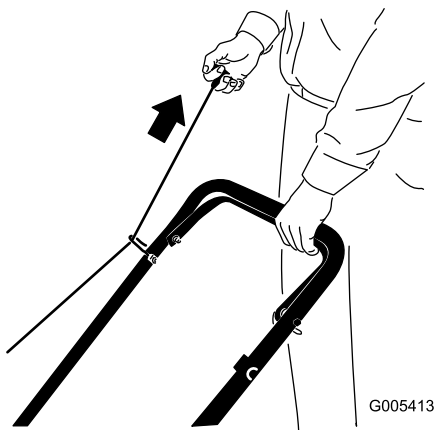
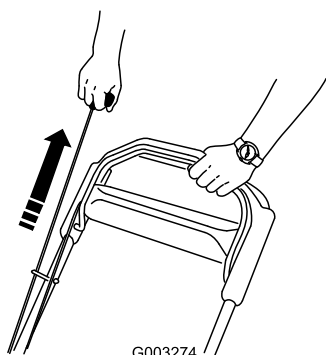

Figure 17
Figure 18
- Pull the recoil starter (Figure 17) or (Figure 18).